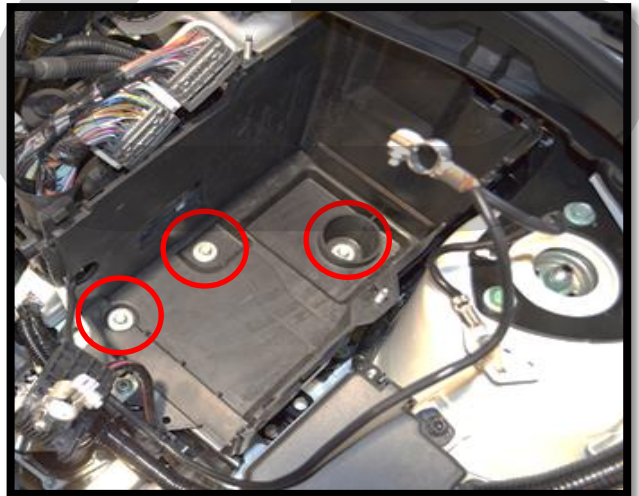

Figure 2e
- g. Remove the battery box by removing the three 10mm bolts in the bottom of the box (circled in red in Figure 2e). The battery box and ECU can then be removed from the vehicle.